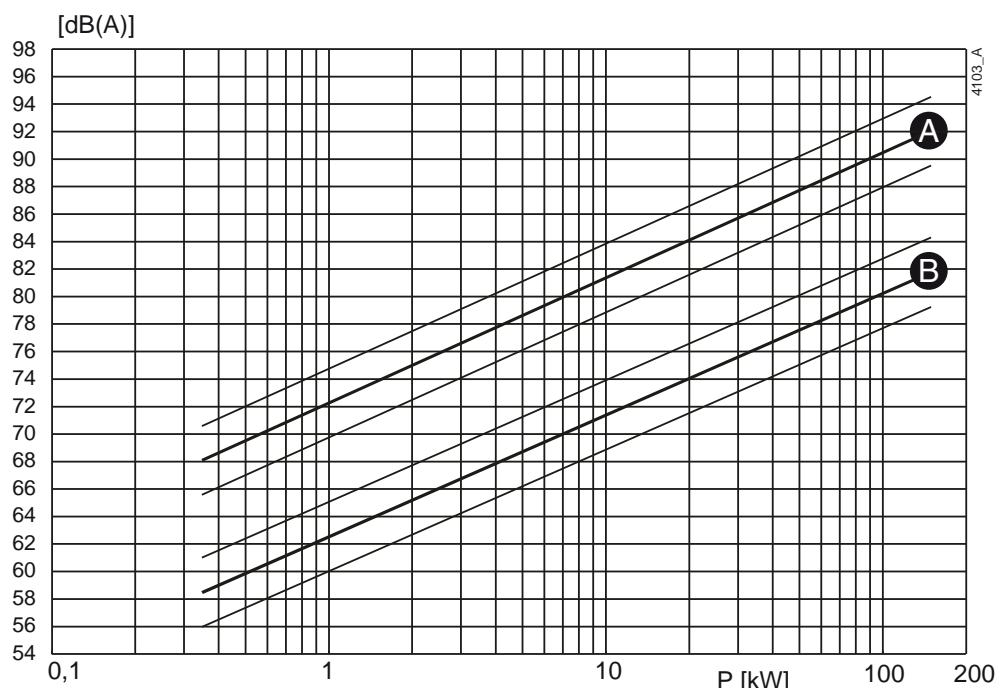
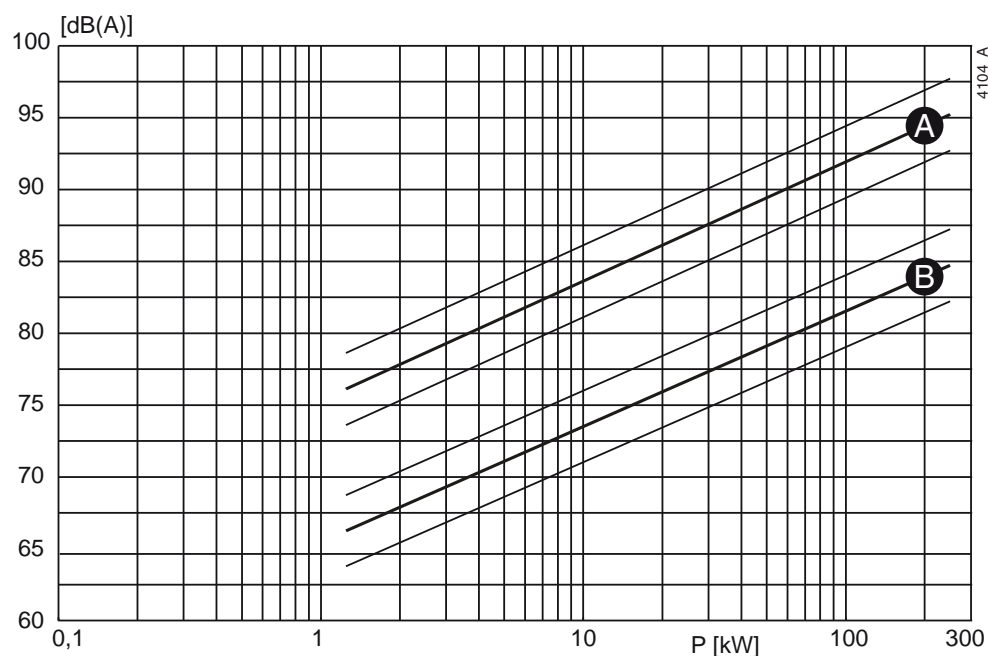

Figure 4: Noise level as function of pump power [kW] at 1450 min^{-1}
Figure 5: Noise level as function of pump power [kW] at 2900 min^{-1}
- 1 Determine the noise level (L_1) of the pump, see figure 4 or figure 5.